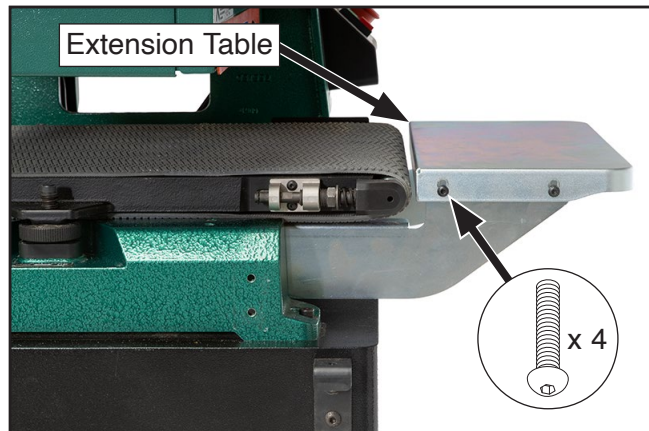

Figure 12. Front extension table attached to table brackets.
- Place (1) extension table over table brackets, and secure with (4) M6-1 x 10 button head cap screws (see **Figure 12**).